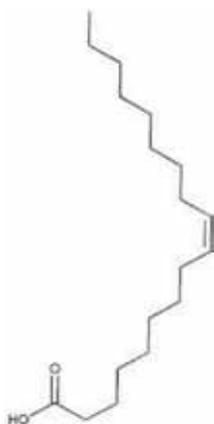

Figure 1 Oleic acid structure
1. Oleic acid structure(Figure1)